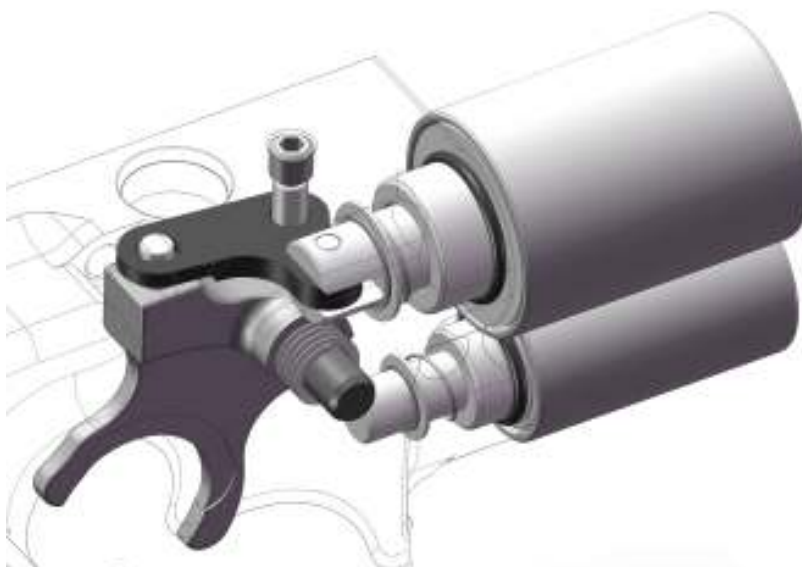

FIGURE 10
- 2) Insert the plunger (PN 185-F5R) with bell crank installed on it in the solenoid port from the inside of the side cover without the washer or spring. Refer to Figure 10 for orientation of the bell crank when installed. Slide the washer and spring over the plunger from the solenoid port side.
- 6) Remove the pull dowel and with a pick or a small screwdriver, slide the bell crank slot over the fork pin. Final installation should like Figure 10. Reinstall the pull dowel. A little wiggling of the bell crank may be necessary to line up the pivot hole with the pull dowel. Install the set screw (PN 31F31KKCS) with 'blue' thread lock and screw in until it is flush with the top of the side cover.
- 1) Insert the plunger (PN 185-F5R) with bell crank installed on it in the solenoid port from the inside of the side cover without the washer or spring. Refer to Figure 10 for orientation of the bell crank when installed. Slide the washer and spring over the plunger from the solenoid port side.
- 5) Remove the pull dowel and with a pick or a small screwdriver, slide the bell crank slot over the fork pin. Final installation should like Figure 10. Reinstall the pull dowel. A little wiggling of the bell crank may be necessary to line up the pivot hole with the pull dowel. Install the set screw (PN 31F31KKCS) with 'blue' thread lock and screw in until it is flush with the top of the side cover.